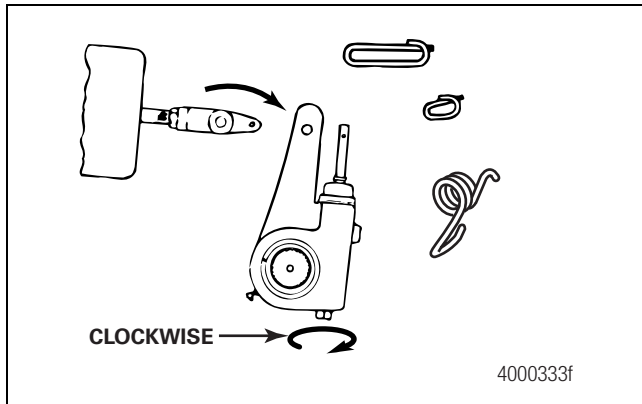

Figure 7.9
2. Use a wrench to turn the manual adjusting nut **CLOCKWISE** until the brake shoes are fully retracted, and the lining clears the drum. Figure 7.9.